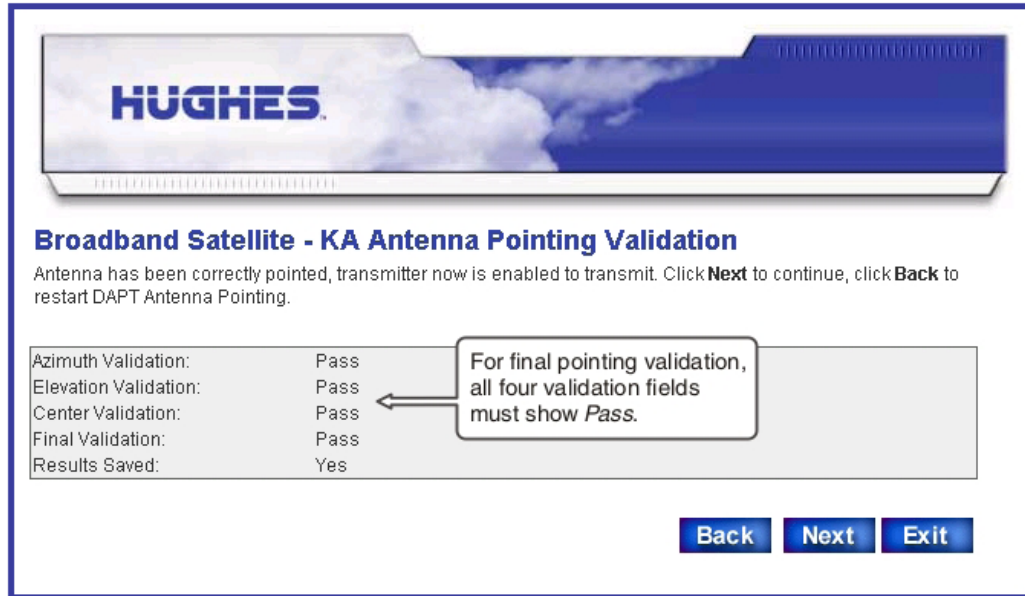

Figure 30: KA Antenna Pointing Validation screen – final validation passed
Pointing is validated when *all four* validation fields show **Pass**, as shown in *Figure 30: KA Antenna Pointing Validation screen – final validation passed* on page 42.
**Note:** The **Next** button shown in *Figure 30: KA Antenna Pointing Validation screen – final validation passed* on page 42 is present only if final validation is successful. If any test failed, only the **Back** and **Exit** buttons are present.